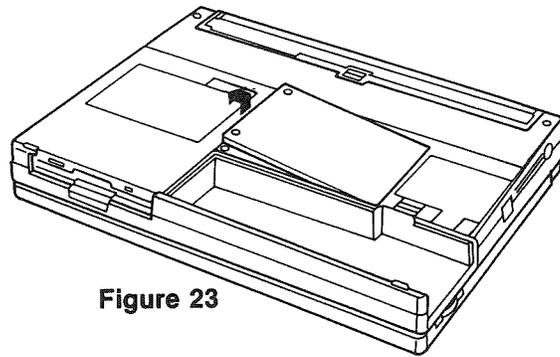

Figure 23
- (4) Carefully raise the HDD and slide it over leftward about 3mm as shown in Figure 23.